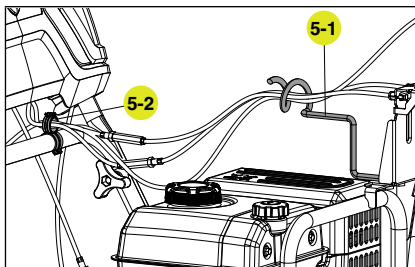

Figure 5
5. Route the cables through the support rod wire form (5-1) and cord clamp (5-2) on the lower handle. Additional cable ties are included to neaten up the cables. Keep loose before first use and adjust. When comfortable all the cabling is in proper position, tighten up the cable ties (Fig. 5).